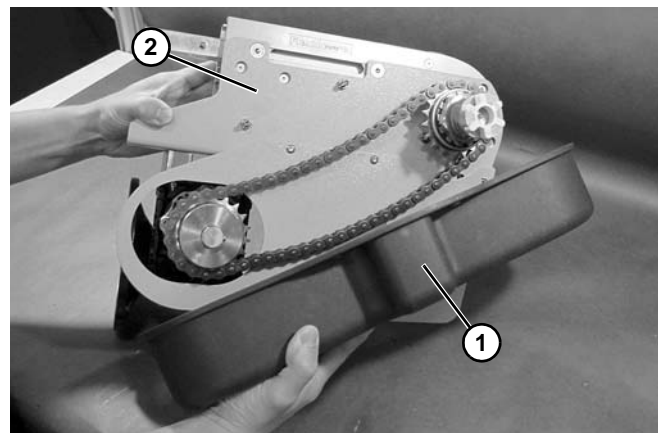

Figure 198
2. Remove cover (Figure 198, item 1) from tail assembly (Figure 198, item 2).